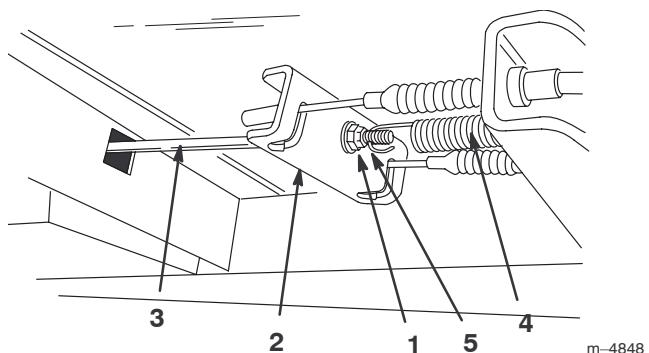

Figure 1
- Locate the brake equalizer plate and brake rod assembly underneath the floor panel (Fig. 1).
- Remove the brake rod from the equalizer plate and slide it out of the pedal box (Fig. 1). Discard the rod.